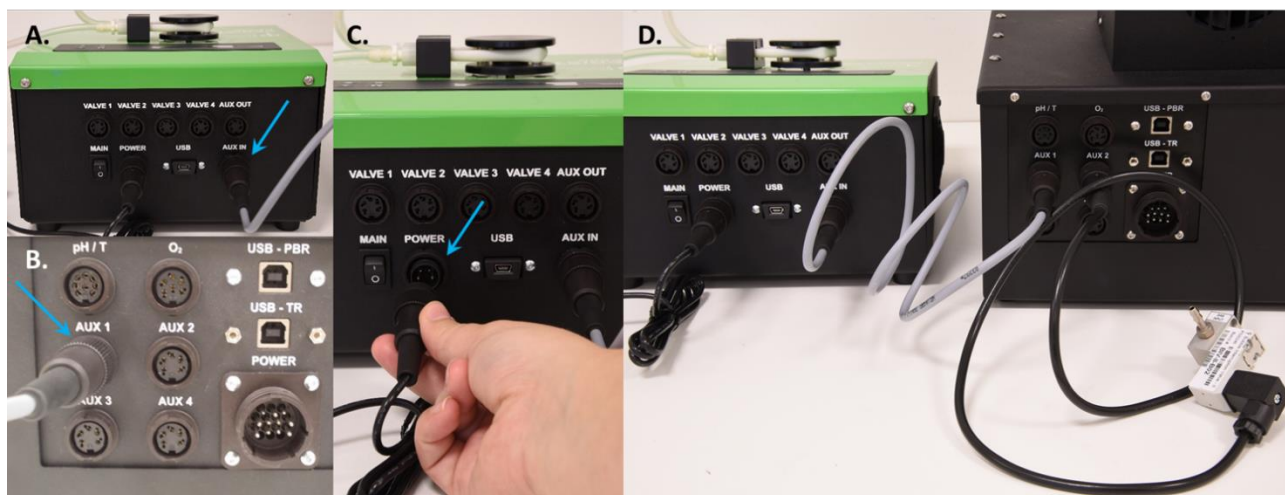

Fig. 49 Connection of peristaltic pump with PBR FMT150.2.
- Install the wiring connections for the peristaltic pump as shown in Fig. 49.